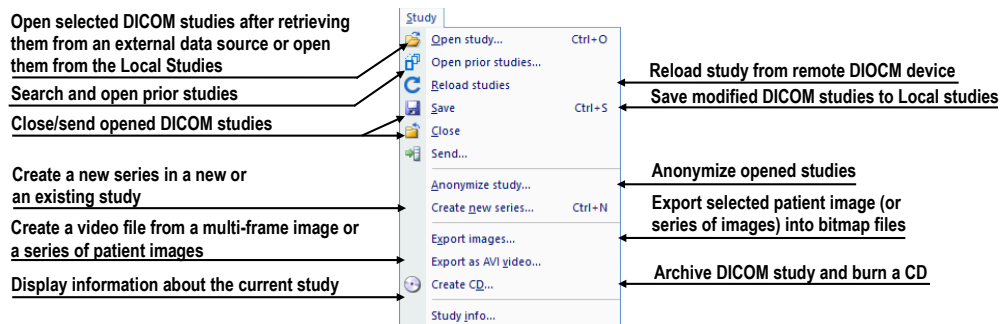

Figure 35 – Study menu
- **Study** – patient study operations (opening, closing, saving studies, anonymizing and burning studies and exporting images, see Figure 35).